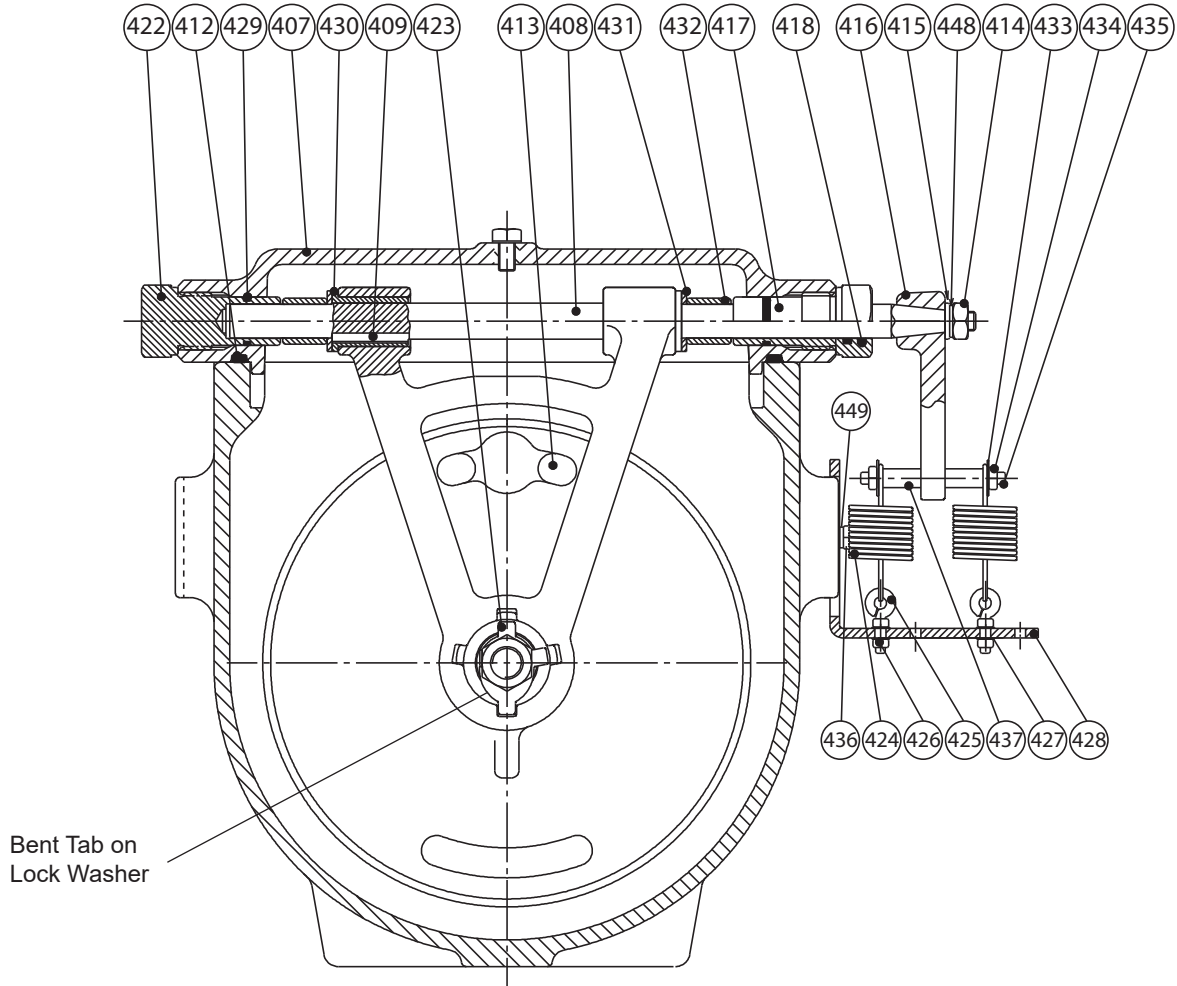

Fig. 7
Note: When ordering, specify whether your valve is resilient seated or metal seated. For 10-inch and 12-inch valves, two (2) Bonnet O-rings (429), Two (2) Hinge Connectors (430), two (2) Retaining Washers (431) and two (2) Shaft Spacers (432) are also required for assembly. (See figure 7) No Disc Bushing is required for the Disc Assembly.
2. Remove the bushings. For valves with a lever, one bushing is open (417) and one bushing is closed (422). For valves without a lever, both bushings are closed (422).
- a. Valve sizes 3-inch through 8-inch, without a lever, have Bonnet O-rings (429) only.
- b. Valve sizes 10-inch and 12-inch without a lever have two (2) Bonnet O-rings (429).
- c. Valve sizes 10-inch and 12-inch, equipped with a lever, have two (2) Inner Bushing O-rings(418), and two (2) Bonnet O-rings (429).
- d. 3-inch through 8-inch valves equipped with a lever, have two (2) Inner Bushing O-rings (418) located inside the Open Bushing (417) and two (2) Bonnet O-rings (429).
4. Slide the Shaft-Hinge-Disc assembly from the bonnet (407).
5. Remove the Disc Nut (401) , Disc Bushing (403) Disc Washer (402), and Disc Lock Washer (423)* to remove Disc (413) from Hinge (404).
NOTE: On 10-inch and 12-inch valves, a tab on the Disc Lock Washer must be bent to remove the lock washer. (See figure 7)